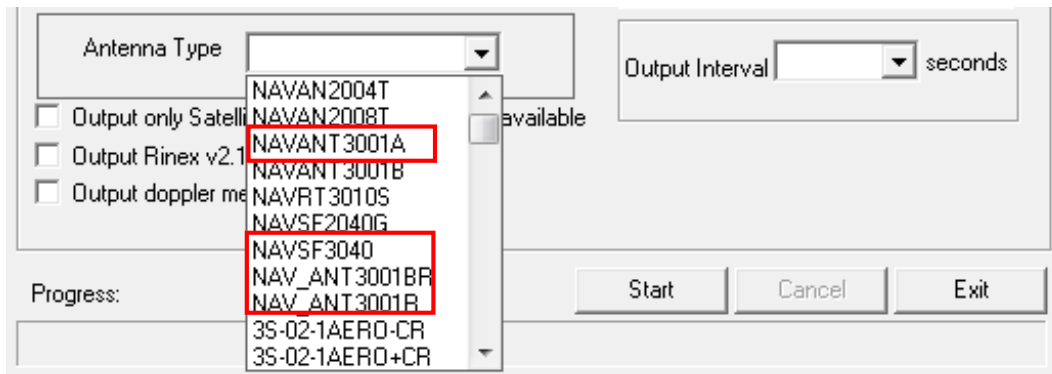

Figure 163: Antenna Type
The conversion options available in the *User Input* and *Options* areas of the RINEX Utility window are not always necessary to complete the conversion. However, selecting the appropriate *Antenna Type* is always recommended to obtain the best results (see Figure 163).
- ✓ **Antenna Type:** Select the antenna type used to collect the data. Figure 163 identifies the NavCom antennae available in the drop-down list: